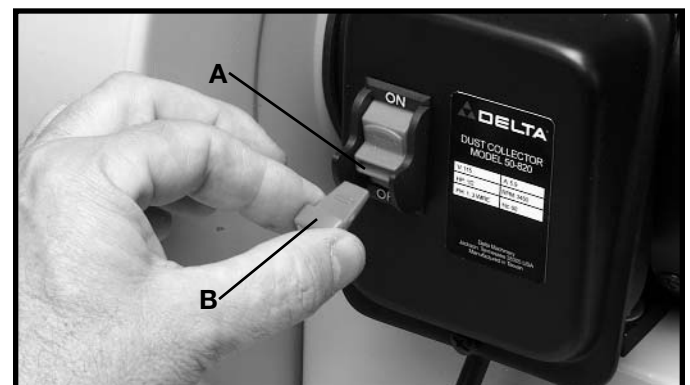

Fig. 25
When the tool is not in use, the switch should be locked in the “**OFF**” position to prevent unauthorized use. This can be done by grasping the switch toggle (B) Fig. 25, and pulling it out of the switch (A) as shown. With the switch toggle removed, the switch will not operate. However, should the switch toggle be removed while the machine is running, the switch can be turned “**OFF**” once, but cannot be restarted without inserting switch toggle (B).